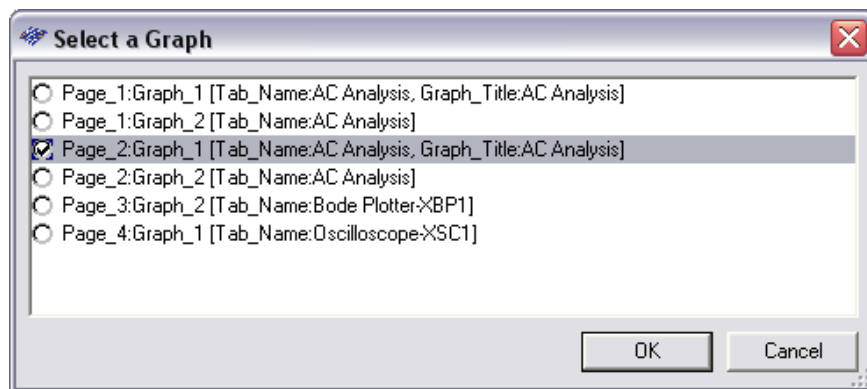

Figure E2-24. Overlaying AC Analysis magnitude over Bode Plot simulation
19. In the **Select a Graph** dialog box select Graph 1 (which is the magnitude plot) in the last AC Analysis that you completed. In this case (as seen in Figure E2-24) we select **Page\_2:Graph\_1[Tab\_Name:AC Analysis,Graph\_Title:AC Analysis]**.